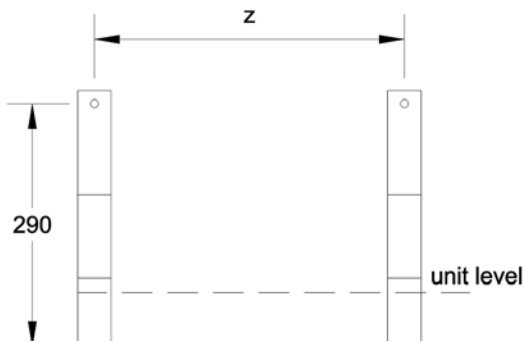

Figure 3.2 ICU Unit Fixing
The unit can either be mounted on a level surface or suspended from a vertical wall using the wall mounting Optional kit (1) (not available on ICU170 Units). The unit should always be mounted on a load bearing wall and not a partition wall. Ensure there is sufficient free area around the unit as detailed in Figure 3.2.
Ensure there is adequate air entry at the back of the unit as detailed in Figure 3.2 above.